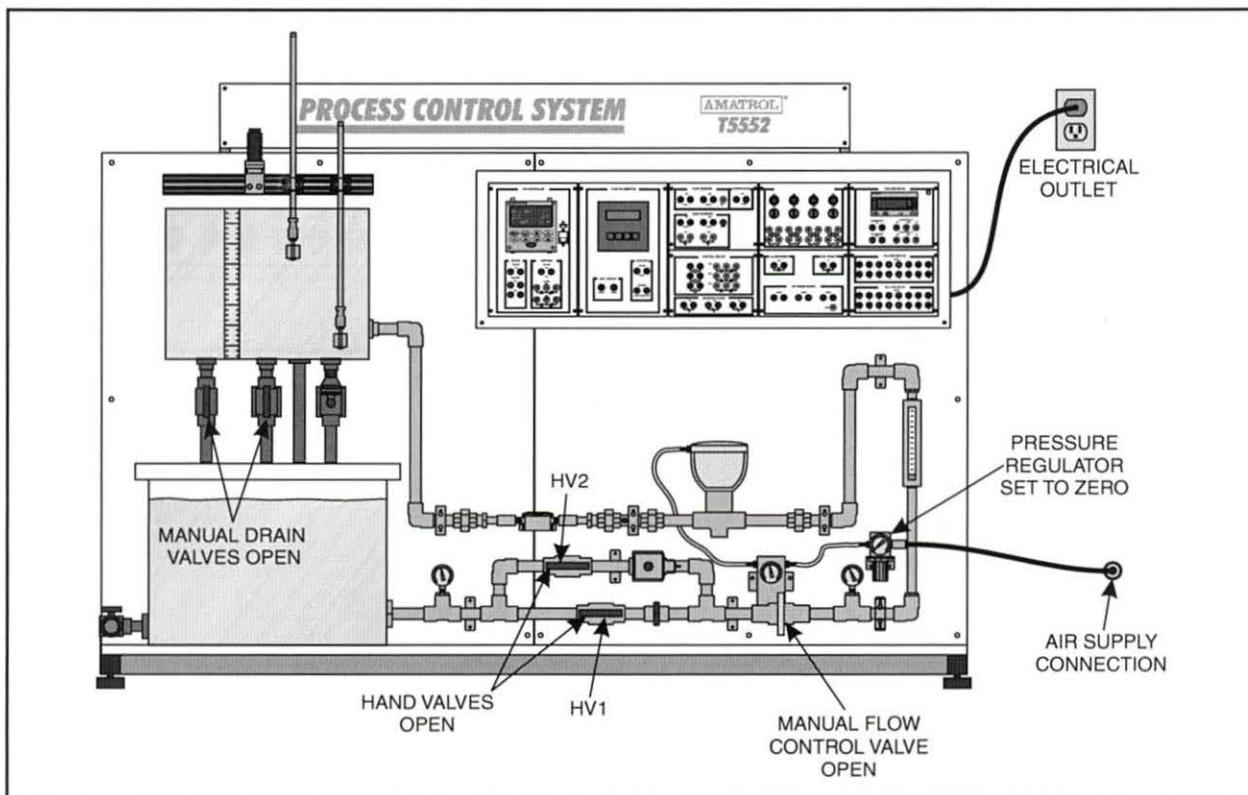

Figure 24. T5552 Setup
- 2. Perform the following substeps to set up the T5552, as shown in figure 24.